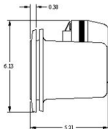

FIGURE 1
1) The speaker unit is required to be on a flat surface with at least 5 3/4" vertical height for the trim bezel to bolt through. See FIGURE 1.